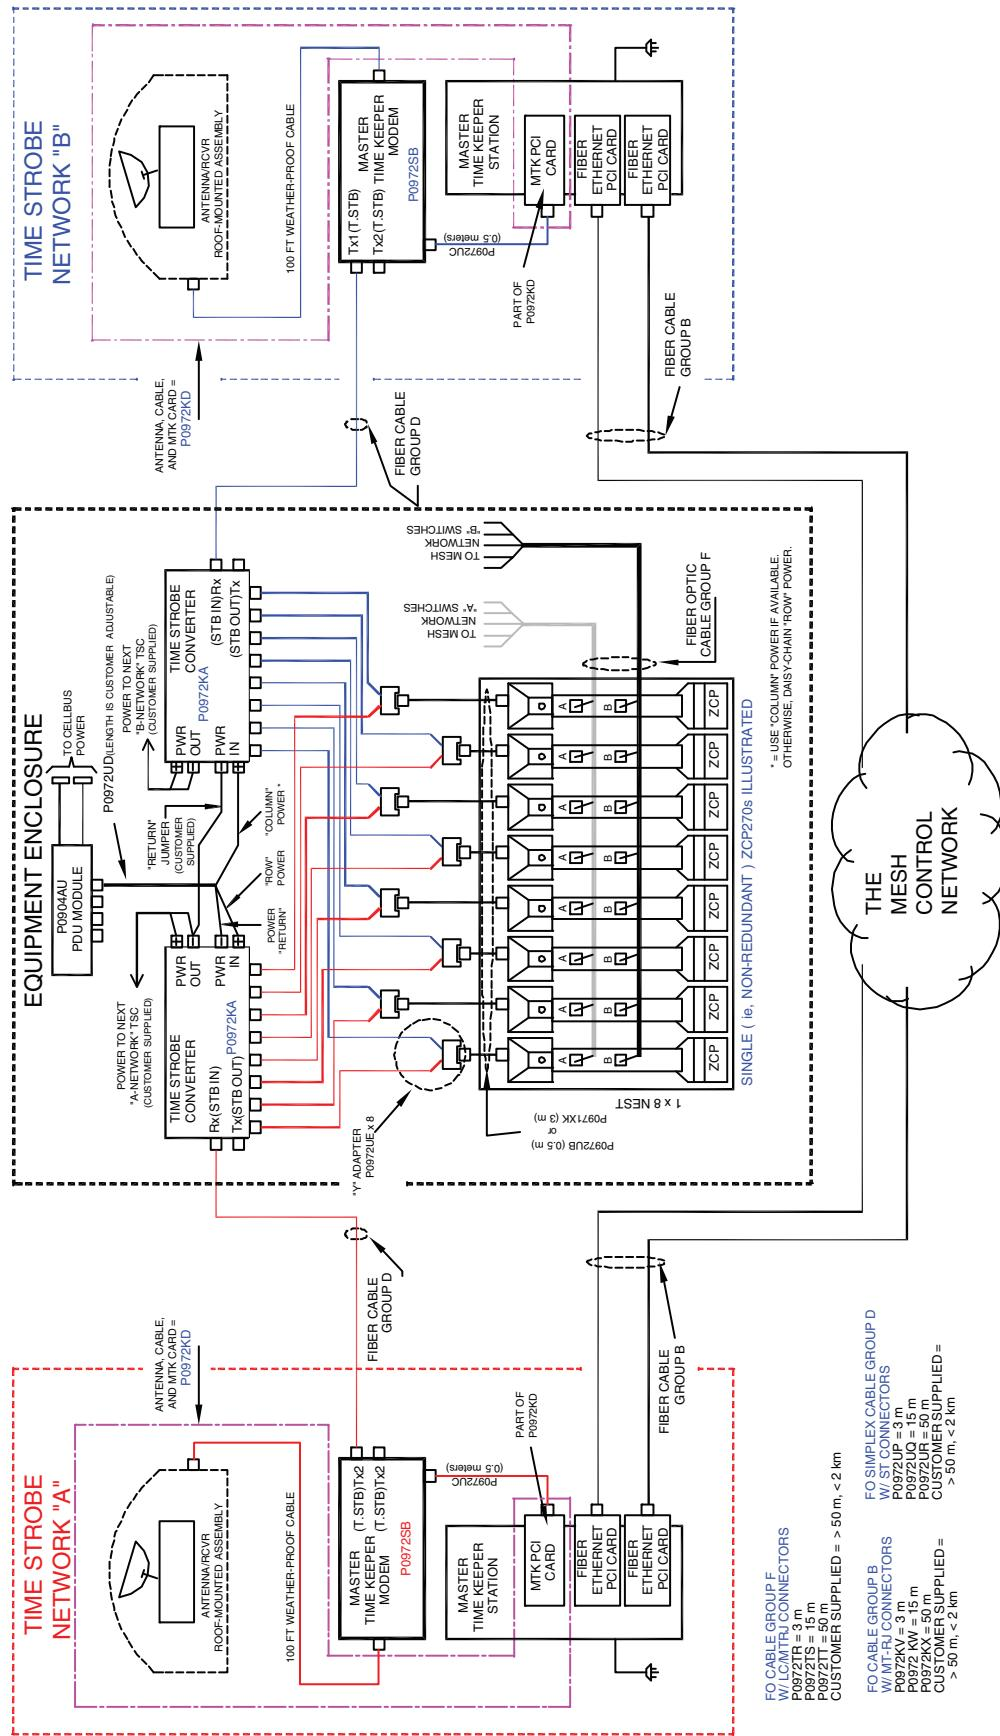

Figure A-9. ZCP270 with Wire Antenna Connection, Redundant Cabling
- ◆ Extended Time Strobe Network - ZCP270 with Wire Antenna Connection, Redundant Cabling (Figure A-9)